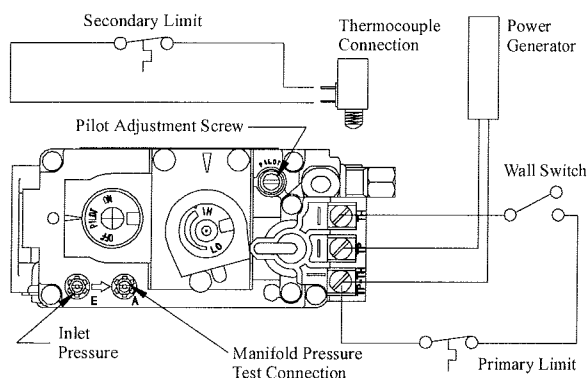

Figure 26. Sit Nova 820 gas valve.
- Have the fireplace installation inspected yearly, including a visual check of the vent system, the burner and the pilot flame. For your convenience a 1/8" manifold pressure tap is supplied on the gas valve for a test gauge connection. See Figure 26.
1. Locate Pilot Adjustment Screw. (See figure 26.)
Pilot won't ignite	Disconnect remote wires and try to light pilot. If pilot now works, remote connections are faulty. Check wiring diagram figure 26 .
Main burner will not light	1. Check wiring (see figure 26) 2. Check wall switch for proper connection.